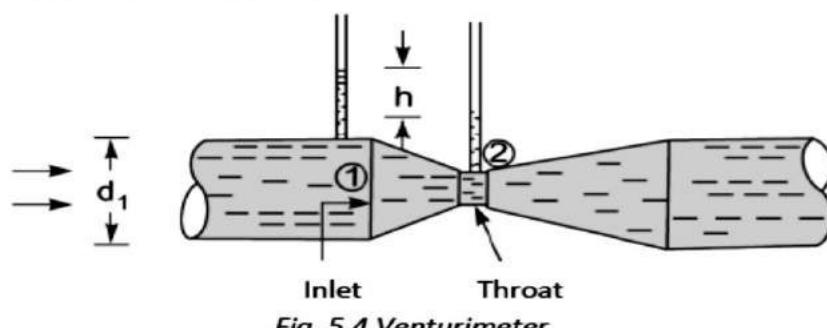

Fig. 5.4 Venturimeter
- Consider a venture meter is fitted in a horizontal pipe through which a fluid is flowing as shown fig 5.4.